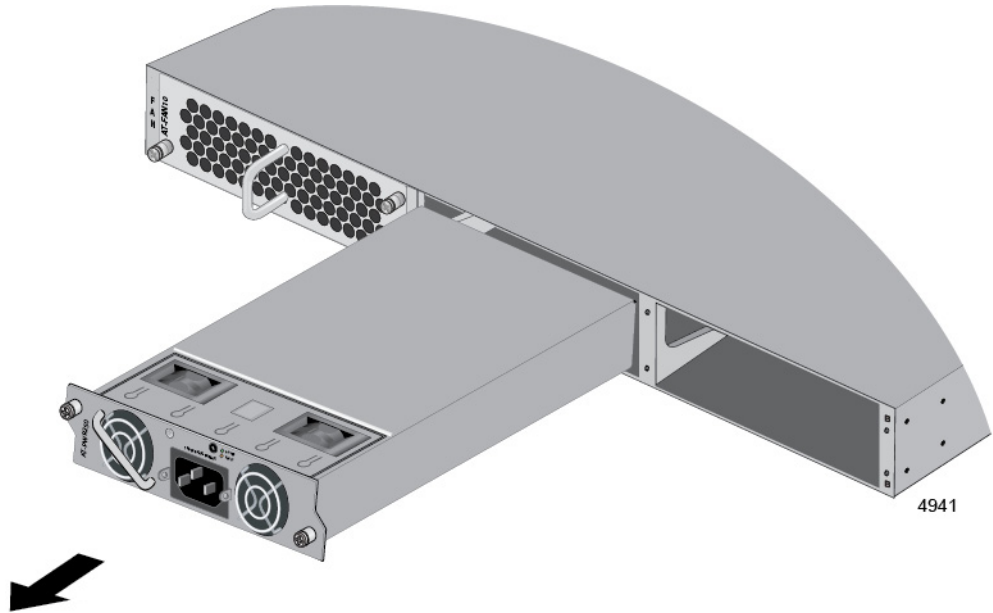

Figure 65. Removing a Power Supply
4. Carefully slide the power supply from the switch. Refer to Figure 65 on page 166.